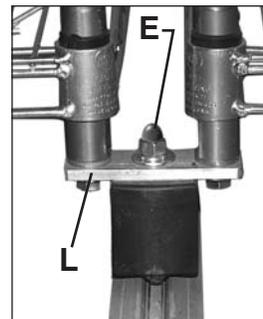
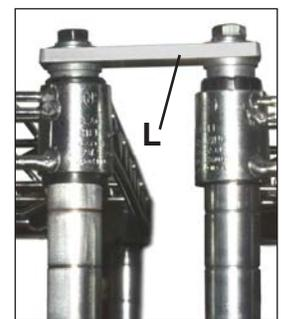

figure 3
figure 3a
Place center tie bar(L) on top of the skate. Align skates(A) top holes with the middle hole in the center tie bar. See "for End Posts" sequence above. Use two 3/8" flat washers(B) with lock washers(C) and a 3/8"-16x1 1/4" bolt(D_{1,25}) and acorn nut(E) to attach center tie bar(L) as shown in figure 3. Use a flat head screw driver to start assembly. Repeat on opposite side. Attach wire shelving units to sides of center tie bar on skate (see "Double-Deep Unit" on back page). Use a 3/8" flat washer(B) with lock washer(C) and 3/8"-16x2 bolt(D₂) to screw through center tie bar and into the bottom of the post as show in figure 3. Tighten bolts with a ratchet, small extension and 3/8" socket as shown in figure 2. Place center tie bar on top of posts and secure using a 3/8" flat washer(B) with lock washer(C) and 3/8"-16x2 bolt(D₂) as shown in figure 3a.